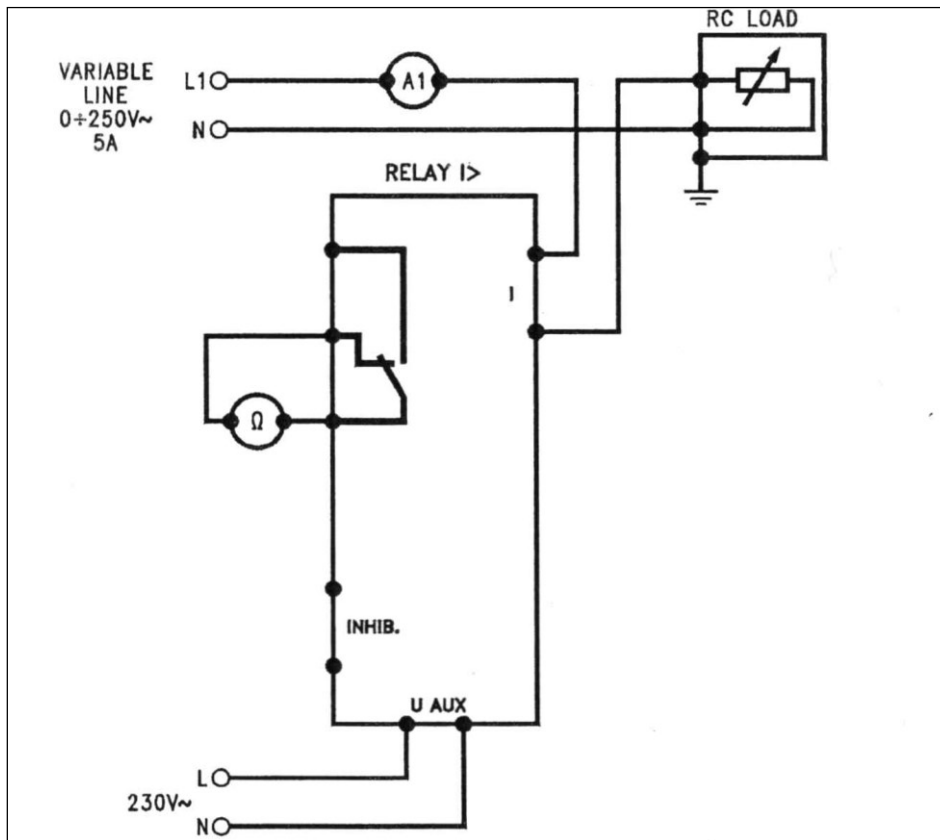

Figure 2-3: Connection Diagram for Checking a Fixed Time Maximum-Minimum, Alternated-Continuous Current Relay
1. Follow the electrical diagram in Figure 2-3.